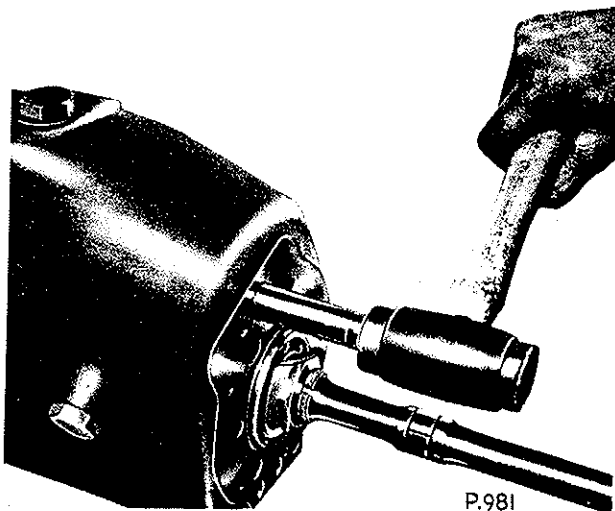

Fig. E.19. Refitting the layshaft spindle
- (c) When re-assembling the layshaft assembly, retain the front and rear phosphor bronze washers in their positions against the casing with grease and enter the dummy layshaft spindle in the cluster gear with the needle rollers, and the abutment rings retained in position with grease to the respective ends of the cluster gear. Insert the cluster gear through the top aperture of the casing and into the bottom of the casing where it can remain until the layshaft spindle is refitted after the mainshaft and primary shaft assemblies are in position. After refitting these assemblies, slowly invert the gearbox and rotate the primary shaft to allow the primary shaft gear to mesh with its corresponding gear on the layshaft as the cluster gear rolls into position (Fig. E.19). The layshaft spindle can then be inserted after aligning the two washers at each end with the spindle bores in the casing. The dummy spindle will be pushed clear with the entry of the layshaft spindle.